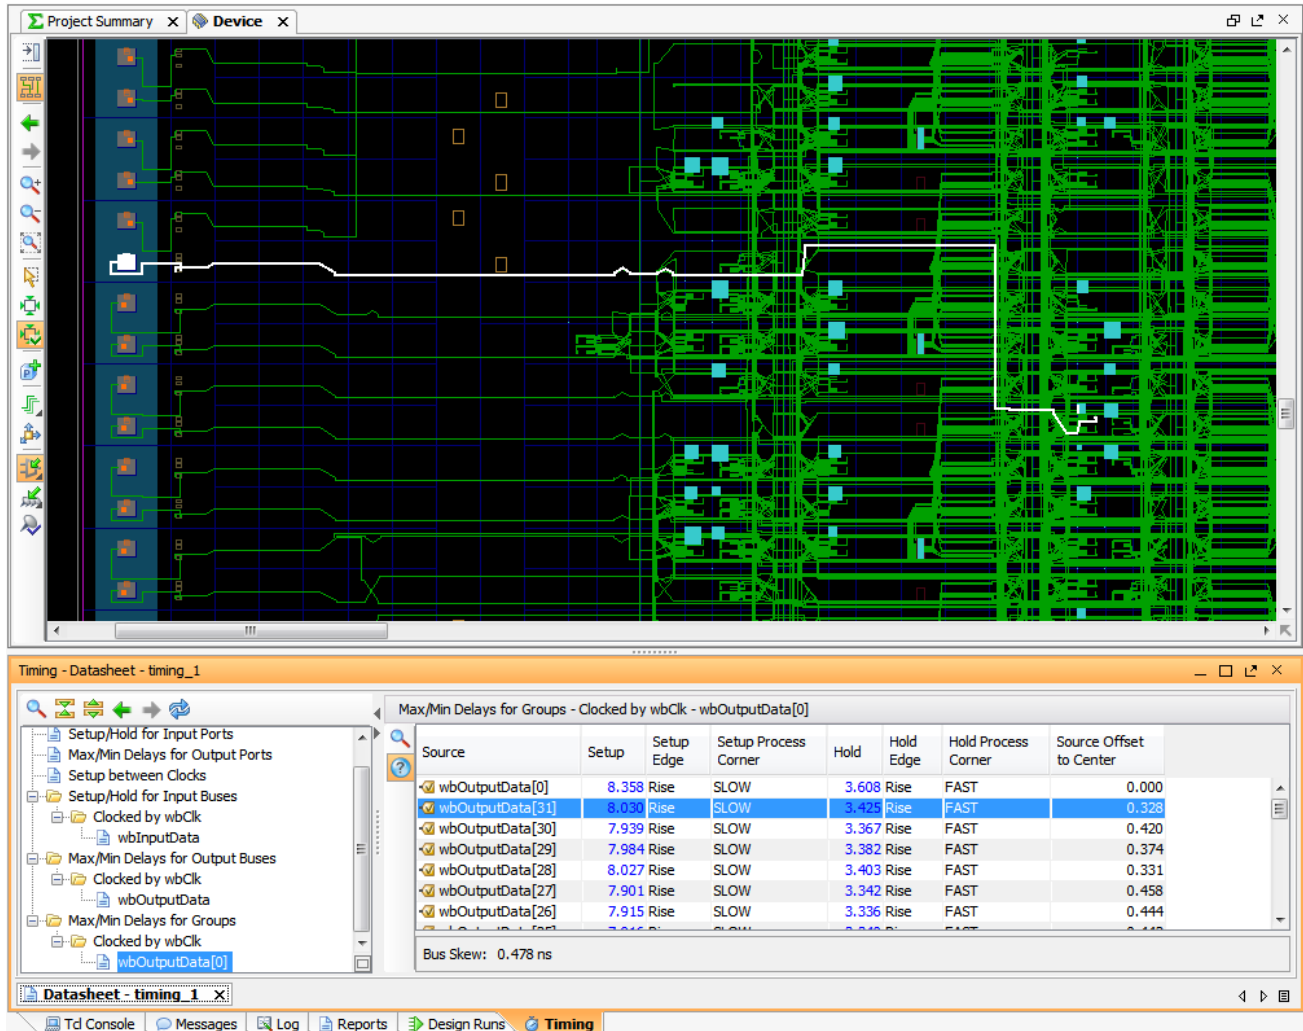

Figure 36: Detailed Routing View
**Note:** Make sure that the **Autofit Selection** command, , is highlighted in the Device window so you can see the entire path, as shown in Figure 36.